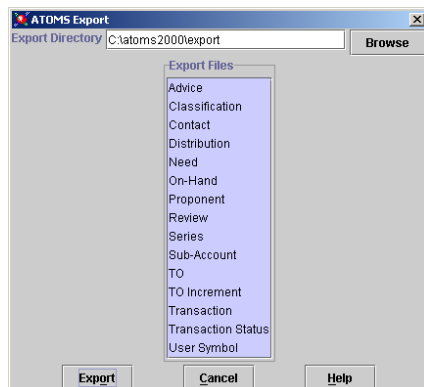

Figure 4-18. Export Window
- 1) From the splash screen, select **Utilities, Export**. The Export window appears (Figure 4-18).